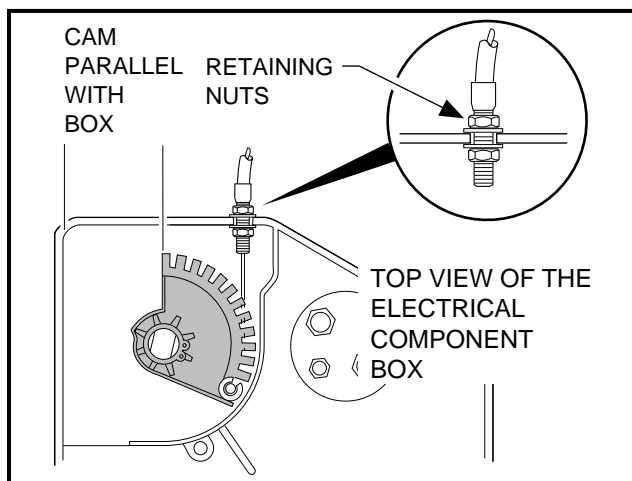
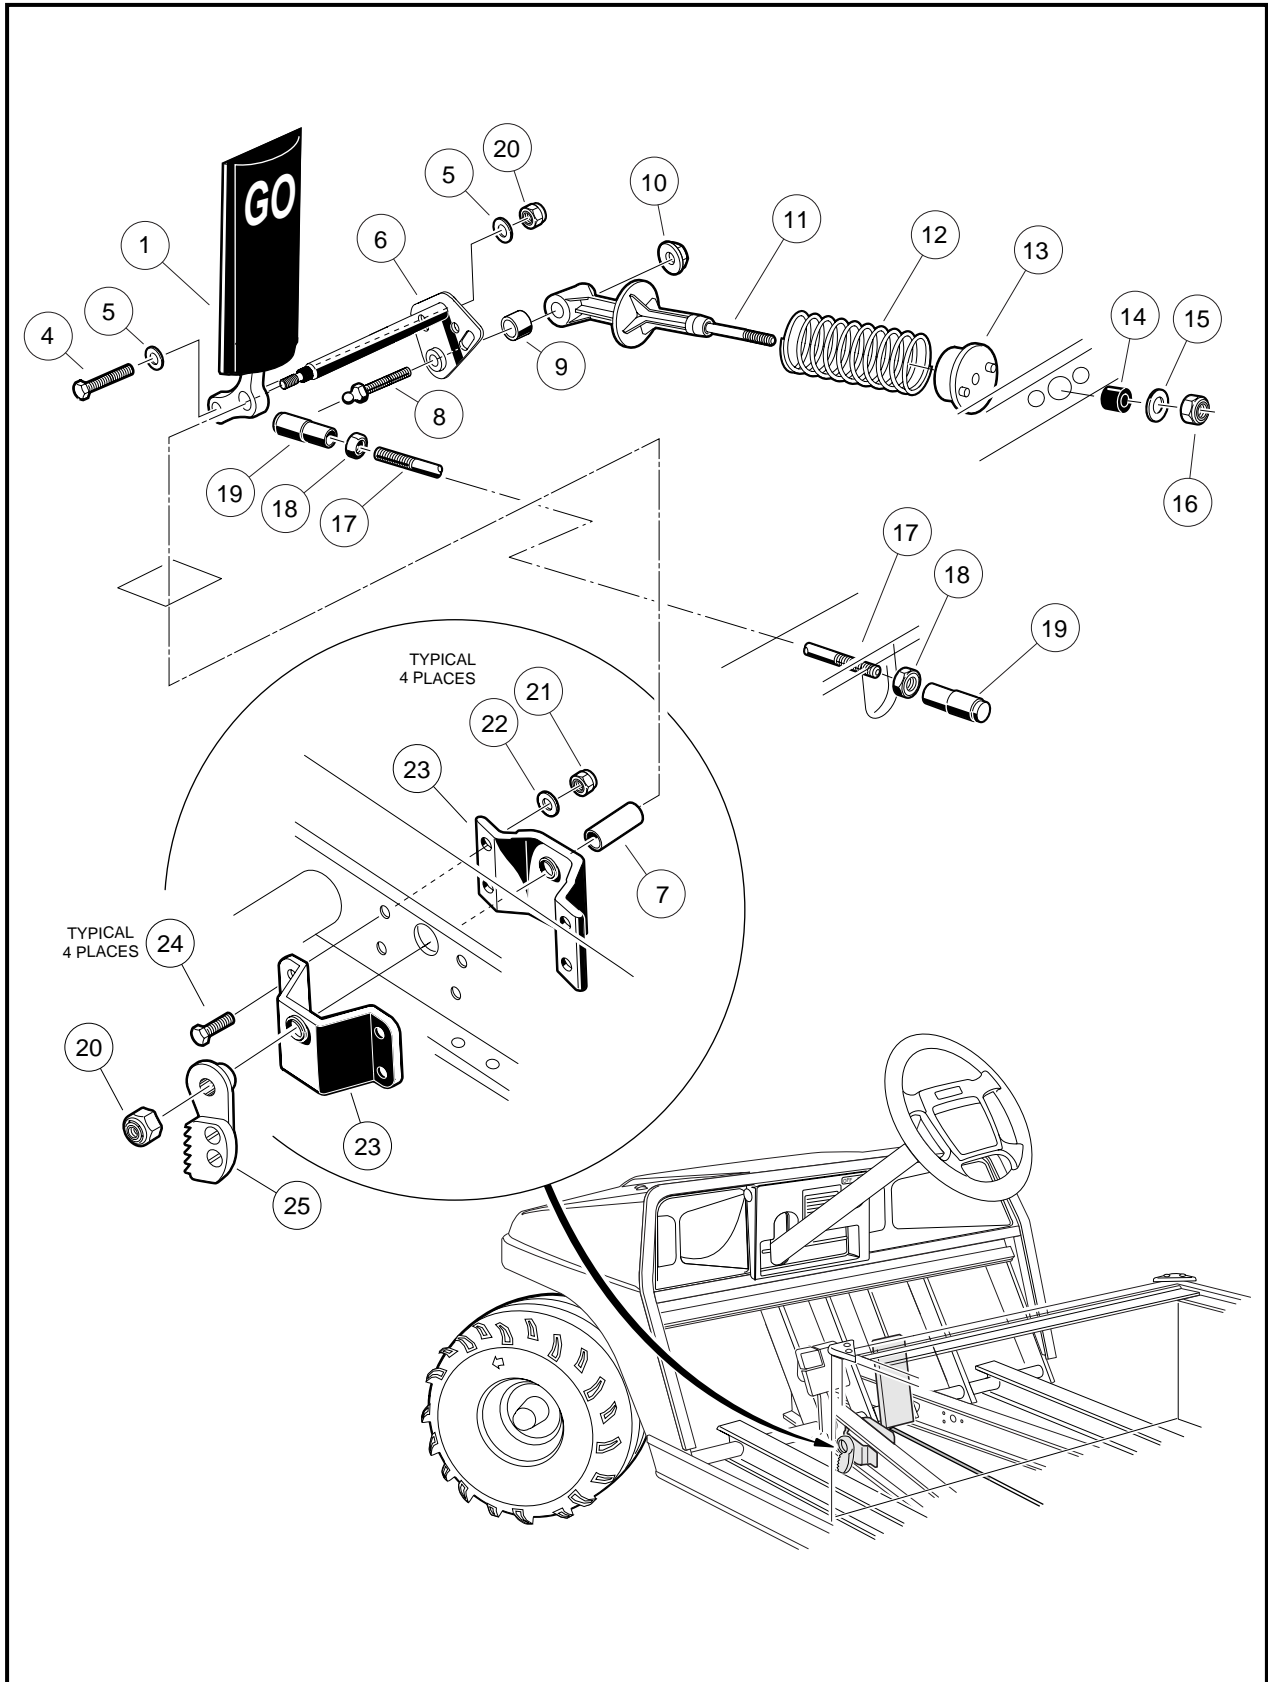

Figure 5-17 Accelerator Cable
Figure 5-18 Accelerator Pedal – Pioneer 900
3. Disconnect the accelerator rod assembly (17, 18, and 19) (Figure 5-18, Page 5-12) at the front and rear ball studs and remove it from the vehicle.
4. Using a 9/16" socket and 9/16" wrench, remove the nut (20), two washers (5), and bolt (4) securing the accelerator pedal (1) to the pivot rod (6) (Figure 5-18, Page 5-12).
5. Remove the nut (10), ball stud (8), and pivot support bearing (9) from the accelerator pivot rod assembly (6) (Figure 5-18, Page 5-12).
6. Slide the spring retainer (11) off of the accelerator pivot rod.
7. Use a marker to mark the position of the park brake ratchet (25) on the accelerator pivot rod (6) (**Figure 5-18, Page 5-12**). See following NOTE.
8. Remove the lock nut (20) from the accelerator pivot rod (**Figure 5-18, Page 5-12**).
9. Depress the brake pedal slightly and then slide the park brake ratchet (25) (**Figure 5-18, Page 5-12**) toward the end of the accelerator pivot rod. Rotate the ratchet and remove it from the pivot rod.
10. Remove the pivot rod (6) and spacer (7) from the accelerator pivot rod supports (23) (**Figure 5-18, Page 5-12**).
11. Inspect the accelerator pivot rod supports (23) for wear or damage and replace as necessary. If the pivot rod supports do not require replacement, loosen (but do not remove) the four bolts (24) and lock nuts (21) to make installation of the pivot rod easier.
12. Remove the accelerator pedal (1) from the vehicle (**Figure 5-18, Page 5-12**).
1. If the accelerator pivot rod supports were replaced, position the supports (21) on the vehicle frame and install the four bolts (24), flat washers (22), and lock nuts (21). Tighten the nuts with fingers only at this time (**Figure 5-18, Page 5-12**).
2. Insert the lower end of the accelerator pedal (1) through the floorboard and install the accelerator pivot rod (6) through the uppermost hole in the pedal (**Figure 5-18, Page 5-12**).
3. Install the plastic spacer (7) on the pivot rod (6) (**Figure 5-18, Page 5-12**).
5. Tighten the four bolts (22) (**Figure 5-18, Page 5-12**) attaching the pivot rod supports to the frame to 75 in-lb (8.5 N·m).
6. Install the bolt (4), two washers (5), and nut (20) through the lower hole in the pedal and through the pivot rod. Tighten the nut with fingers only at this time.
7. Install the ball stud (8) through the pivot rod. Using needle-nose pliers, install the pivot support bearing (9) and the spring retainer (11) onto the ball stud. Secure these parts with the nut (10) (**Figure 5-18, Page 5-12**). Tighten the nut to 50 in-lb (5.7 N·m).
11. Install the nylon lock nut (20) on the pivot rod and tighten the nut to 18 ft-lb (24 N-m) (**Figure 5-18, Page 5-12**).
12. Install the accelerator rod assembly (17, 18, and 19) (**Figure 5-18, Page 5-12**).
- 4.2. Loosen the jam nuts (18) and disconnect the accelerator rod (17) at the accelerator pedal. Adjust the length of the rod (**Figure 5-18, Page 5-12**) so the indicated cam edge is parallel with the edge of the electrical component box as shown (**Figure 5-17, Page 5-11**). **See following CAUTION.**